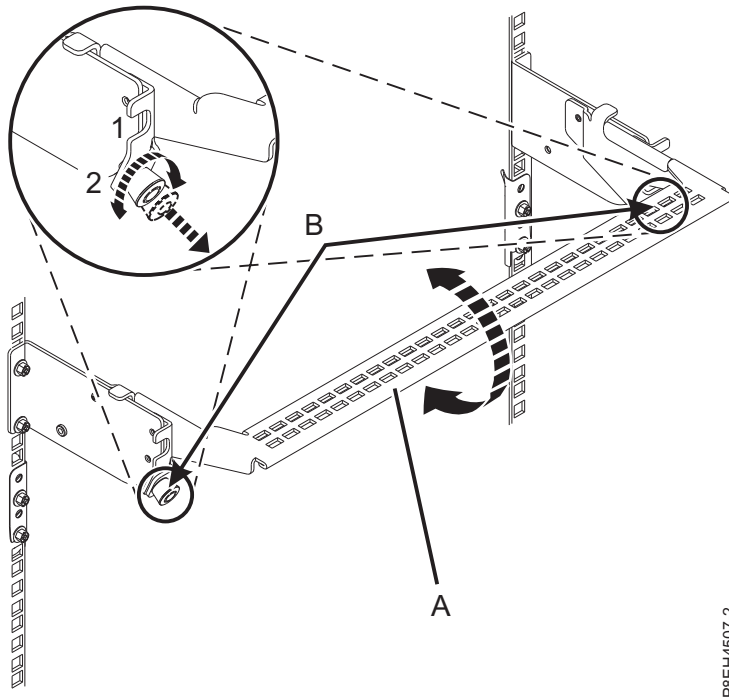

Figure 8. Placing the cable management bracket in the service position
9. At the rear of the EMX0 PCIe3 expansion drawer, put the cable management bracket in the service position. See Figure 8 on page 7.